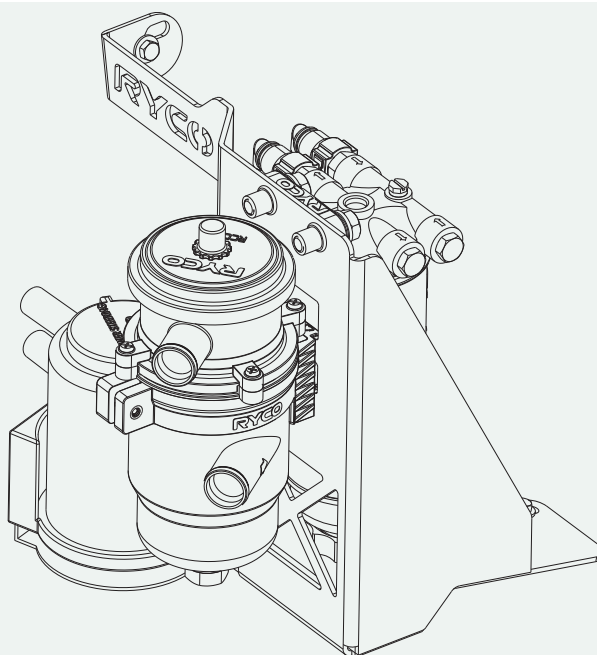

FIGURE 8
- 1 Mount the catchcan onto the bracket by sliding the RCC360 nylon bracket onto the catchcan mounting position so it sits behind the factory airbox. Rotate the RCC360 counter clockwise so the ports are facing toward the engine PCV valve and tighten the plastic bracket retaining screw, as per Figure 8 below.